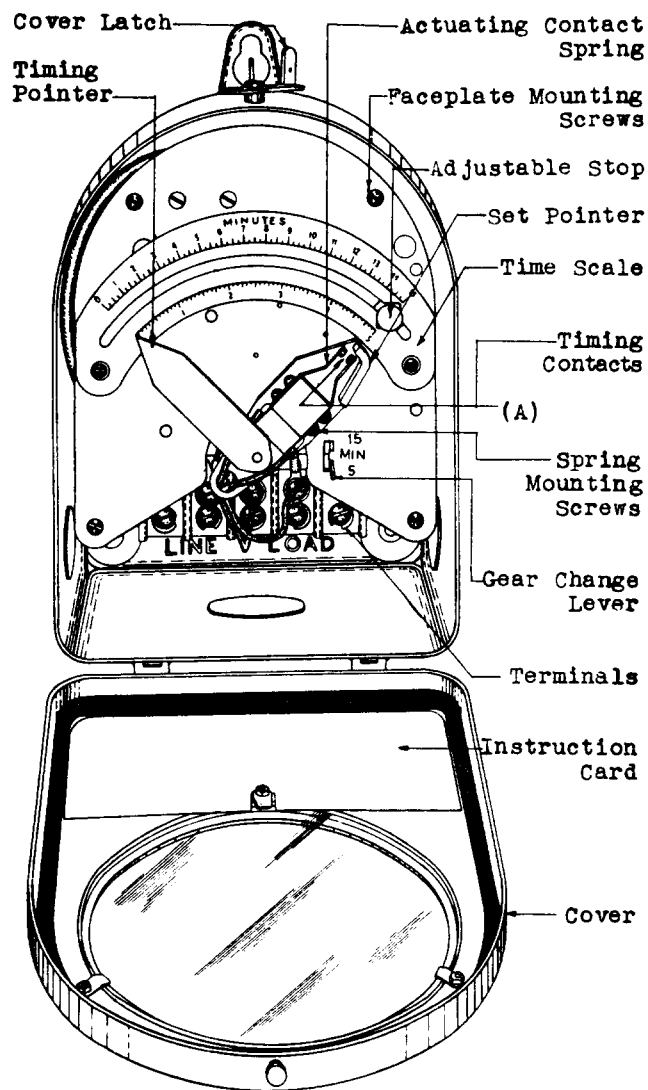

Fig. 1 - Front View of KS-5464 Call Timing Switch
(a) Fig. 1(A) and 2(A) - The timing contacts shall line up so that their centers are not out of alignment more than 1/8 of the contact diameter. Operate the actuating contact spring manually and gauge by eye just as the contacts make.